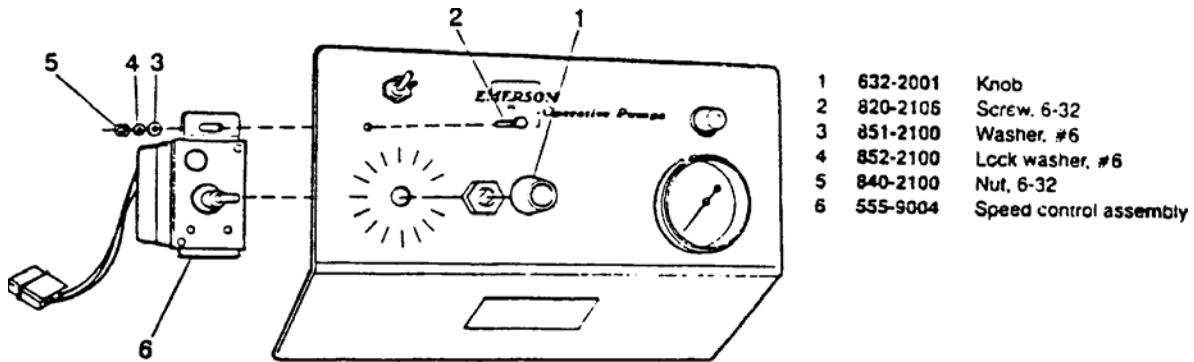

Figure 1-2. Removal of Variac speed control.
b. **Variac Control.** Refer to figure 1-2. Disconnect the three wires to the Variac speed control (A1). Loosen the Allen screw on the speed-control knob and pull the knob off. Remove the shaft nut and machine screw securing the Variac control to the panel. Two adjusting screws are used to adjust the speed. Replace the defective Variac with the new control. Reassemble the speed-control assembly in the reverse order.